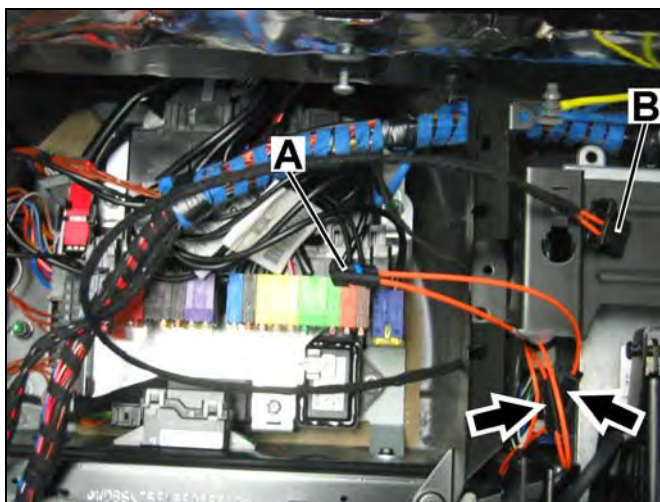
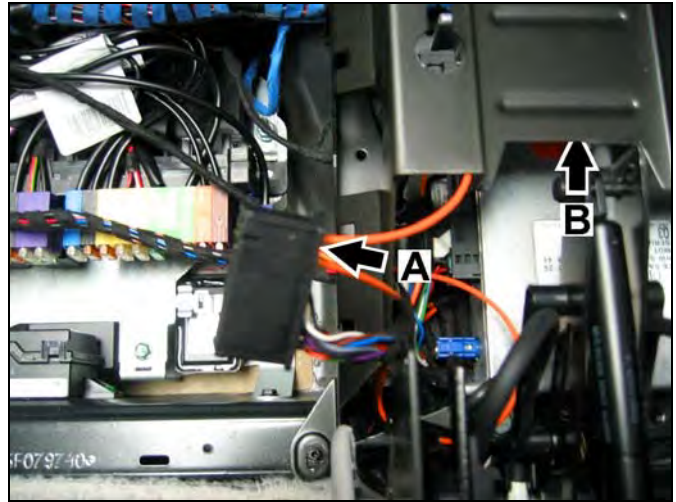
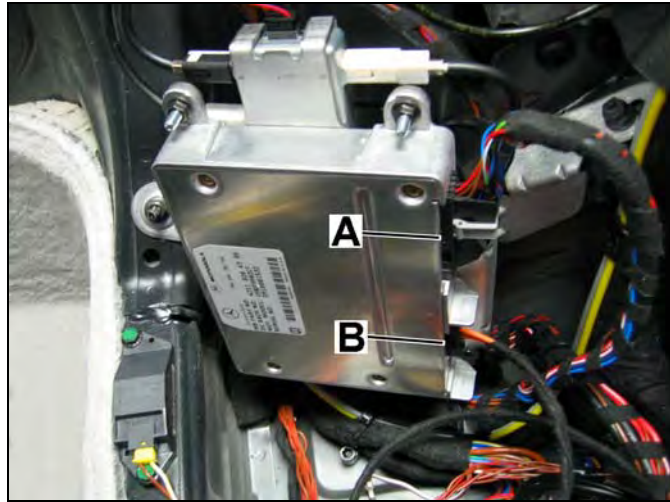

Figure 8
Figure 9
Figure 18
4. **INSERT THE FIBER ENDS INTO THE PURCHASED MALE CONNECTOR.** Install the kit-included MOST adapter cable (Arrows, Figure 8).
5. Insert the smaller connector (A, Figure 8) of the MOST adapter cable into the back of the VCS power supply connector (A, Figure 9).
6. Feed the VCS power supply/MOST connector under and through to the backside of the center console bracket (B, Figure 9).
13. Connect the MHI power supply connector to the MHI control module (A, Figure 18).
14. Connect the larger connector (B, Figure 8) of the MOST adapter cable to the MHI control module (B, Figure 18).